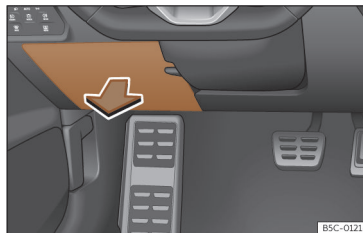

Fig. 213 On the dashboard on the driver side: lid of the fuse box.
- *Open*: fold the cover down >>> **Fig. 213**.